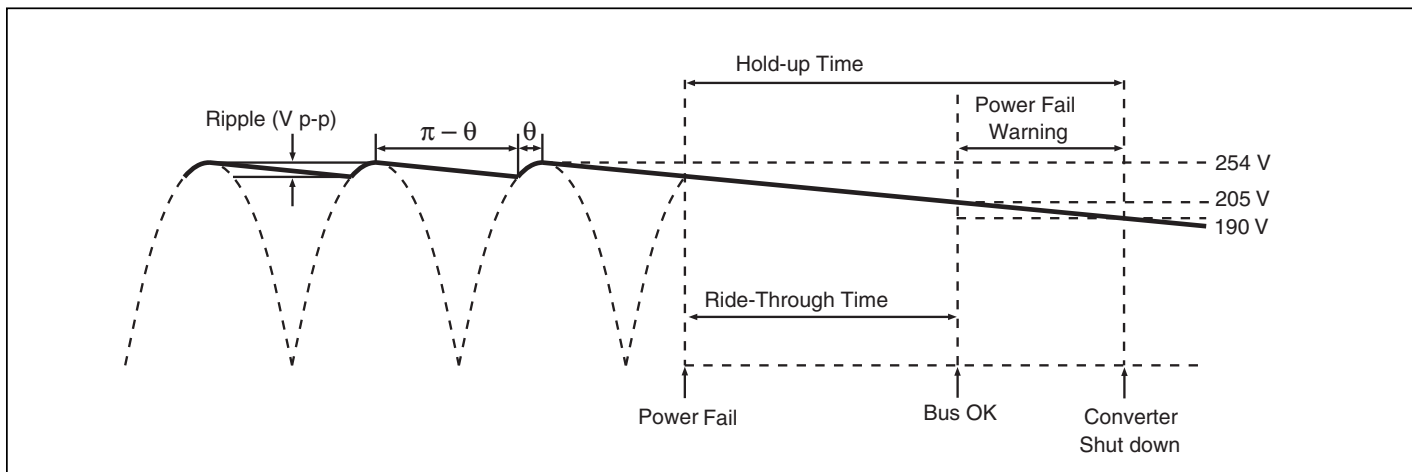

Figure 15 — Hold-up time
Hold-up capacitor values should be determined according to output bus voltage ripple, power fail hold-up time, and ride-through time (see Figure 15). Many applications require the power supply to maintain output regulation during a momentary power failure of specified duration, i.e., the converters must hold-up or ride through such an event while maintaining undisturbed output voltage regulation. Similarly, many of these same systems require notification of an impending power failure in order to allow time to perform an orderly shutdown.
The power fail warning time ( $\Delta t$ ) is defined as the interval between BOK and converter shutdown (EN) as illustrated in *Figure 15*. The Bus-OK and Enable thresholds are 205 V and 190 V, respectively. A simplified relationship between power fail warning time, operating power, and bus capacitance is obtained by inserting these constants in Equation (3):
Equation 3 is again used to determine the required capacitance. In this case,  $V_1$  and  $V_2$  are the instantaneous values of bus voltage at the peaks and valleys (see *Figure 15*) of the ripple, respectively. The capacitors must hold up the bus voltage for the time interval ( $\Delta t$ ) between peaks of the rectified line as given by: